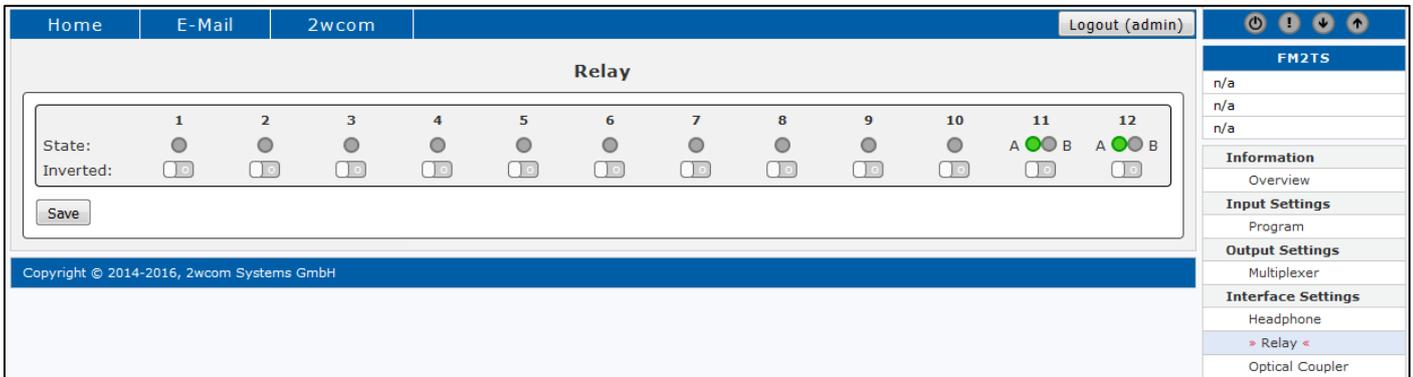

Figure 14: Interface Settings – Relay status
2. The virtual LEDs in the first field **State** show the current status of the relays ("green"=ON; "grey"=OFF) (see Figure 14).